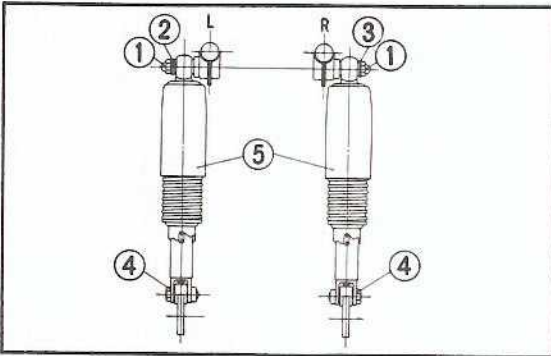

Fig. 12-6 ① 10 mm cap nuts ④ 10 mm bolts
**Note:** After installing the cushion, check the alignment of the right and left cushion and also the alignment of the cushion mounting bolt for both right and left sides (Fig. 12-6).